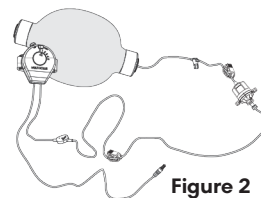

Figure 2
2. Remove the caps off the compression exit port and the regulator inlet port and connect the tube to the Regulator (luer-lock connector) (see Figure 2).